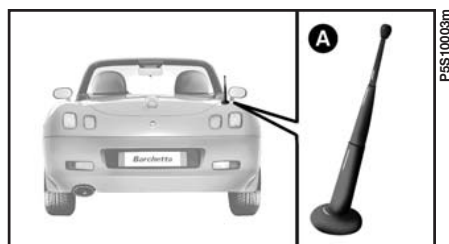

fig. 78
- a dual function, electrically-operated aerial (sound system and cellular phone) **A**-fig. 78 located in the rear right-hand part of the vehicle;